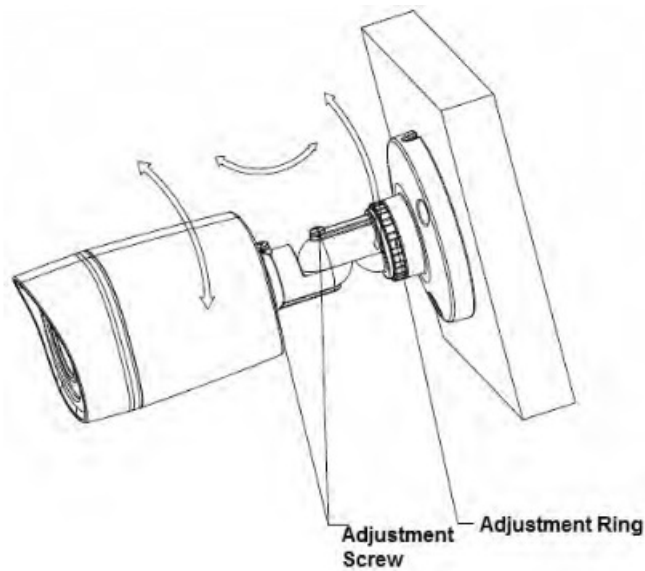

Figure 3-12
**Step 3** Adjust the camera to the proper monitor area and then secure the button of the bracket to fasten the camera. See Figure 3-12.